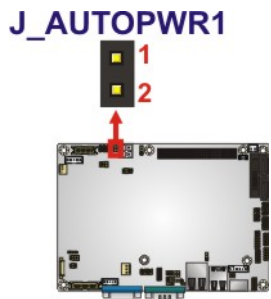

Figure 4-2: AT Auto Button Select Jumper Settings
- Jumper Location:** See Figure 4-2